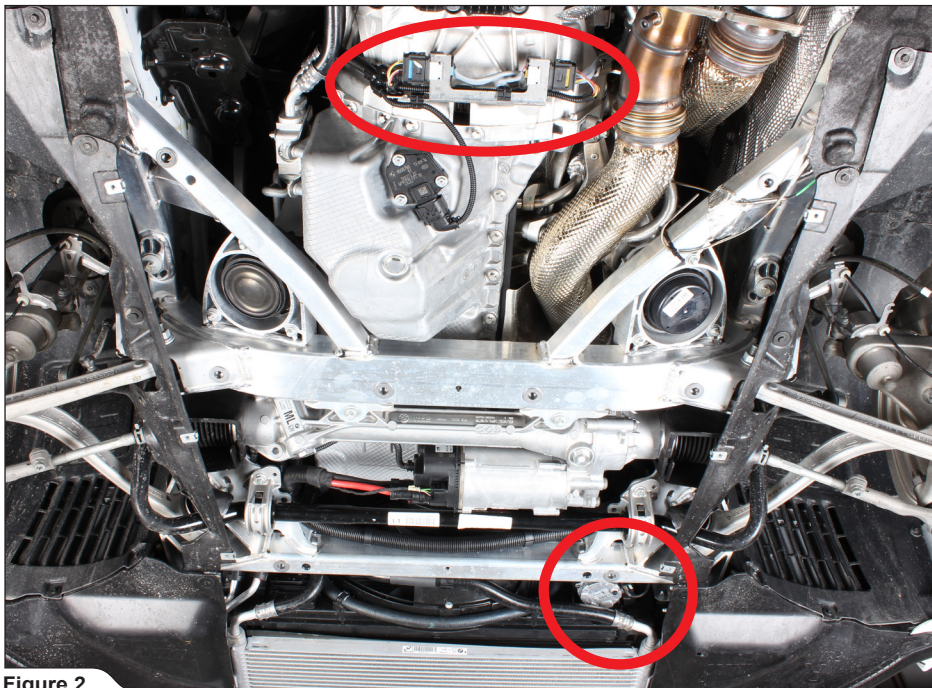

Figure 2
2. Disconnect the marked lambda sensors' and cooling system pump's connectors (Figure 2, 3, 4).